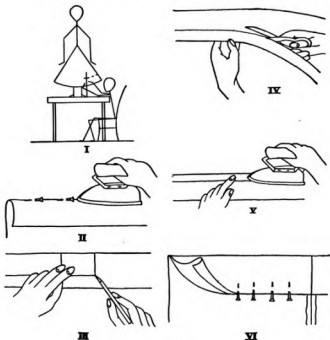

FIGURE 121
*Establishing Hemline* (Figure 121). — Have the model stand erect "like a soldier" on a table, with the garment adjusted as it is to be worn. The model must be directly in front of the fitter, who is seated. The hemline and the eye of the fitter should be at the same level. With a gage or yardstick (with a rubber band placed securely at the desired hemline length), let the fitter weave in pins several inches apart around the hemline parallel with the table-top at the desired length (I). The model should not move during the establishing of the hemline. Remove the garment, press in the pinned hemline (II), then put up the hem by pinning seams together first, then the centers between seams